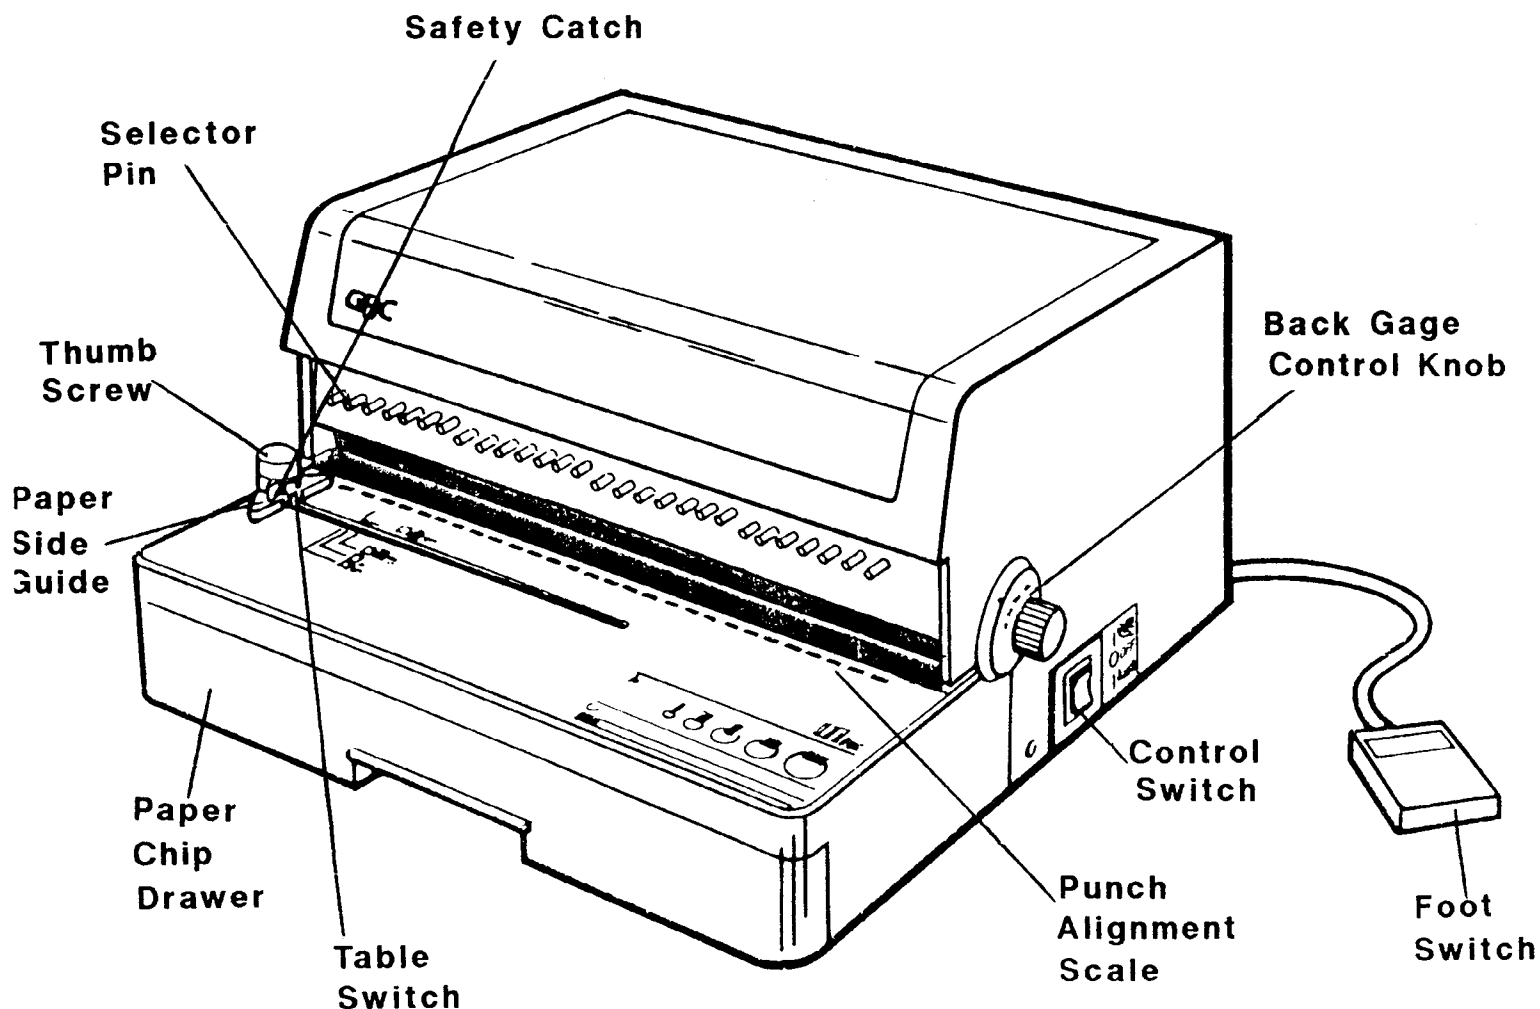

FIGURE 1.1 Know Your 111PM-3
- Four (4) rubber feet
- Four (4) screws
- Four (4) flat washers
- One (1) back gauge control knob
Mount the rubber feet to the bottom of the unit in the four (4) threaded holes provided. Install Back Gauge Control Knob as shown in Figure 1.1.
7. Release the safety catch on the table switch (Figure 1.1). Activate the table switch without inserting your test sheet in the punch. This is done by pressing the small lever switch to the left, toward the side guide. Repeat this a few times until you become familiar with the sensitivity of the switch.
10. The back guide (Figure 1.1) is the final adjustment. Determine the proper plastic binding diameter for your books and set the back gauge control knob to the corresponding size on the dial.